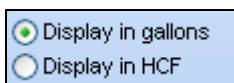

Figure 28.0.8
- In the **Display style** section click on the appropriate box for the following (Figure 28.0.8).